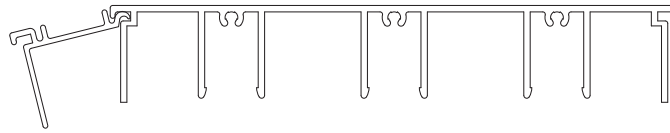

Figure 28
5. Insert tail piece and rotate upwards locking it into place. (See Figure 28)